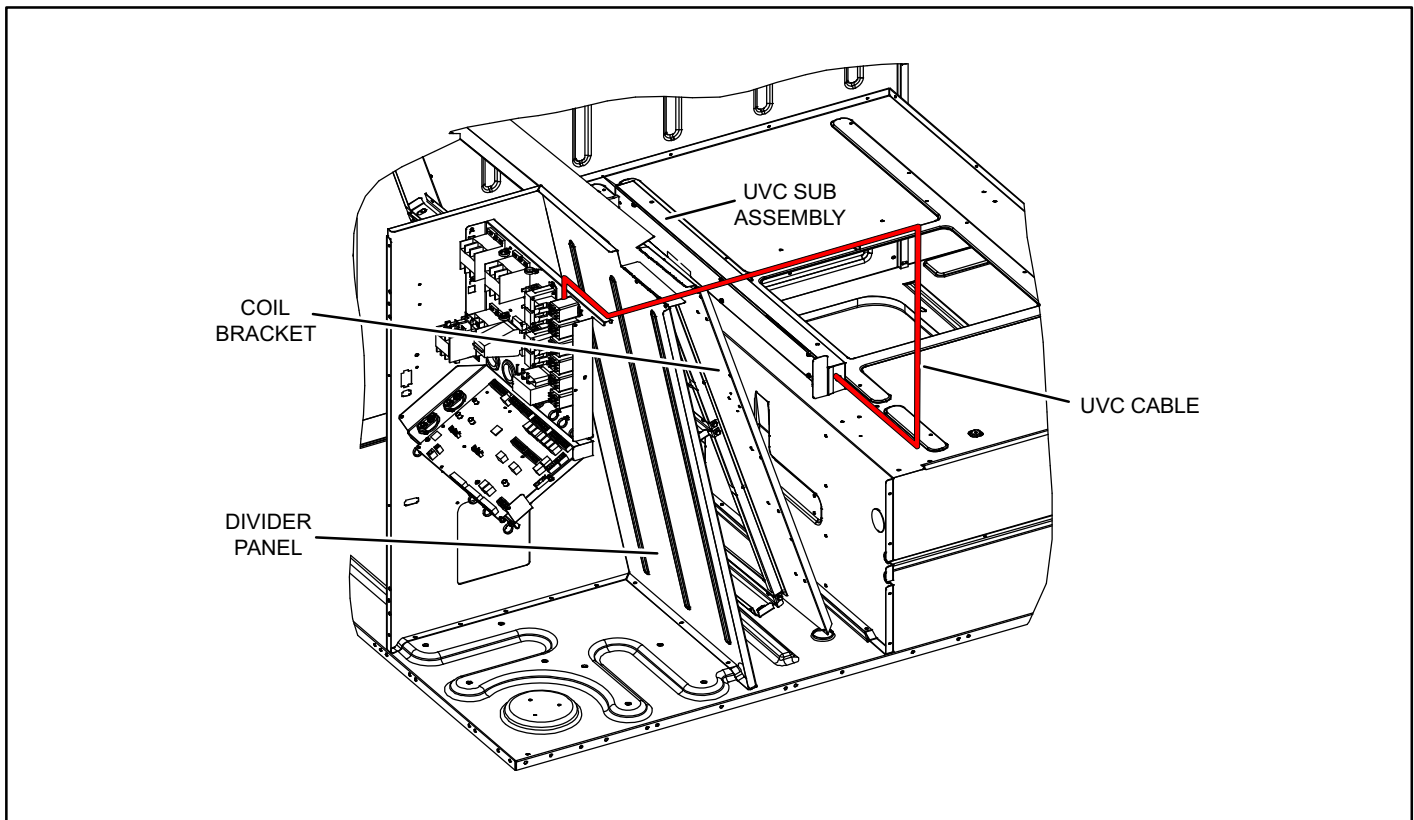

Figure 5. UVC Wire Routing
2. Route the UVC cable through the coil bracket and divider panel (see figure 5) into the controls section.